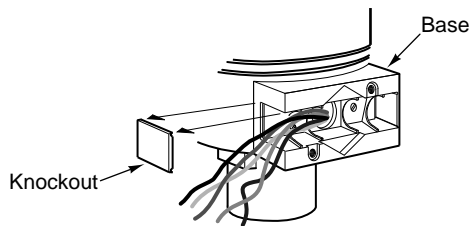

Figure-5 Removal of Knockout on Actuator Base.
2. Remove the knockout (e.g., with channel lock pliers) on the selected side of the actuator. Refer to Figure-5.